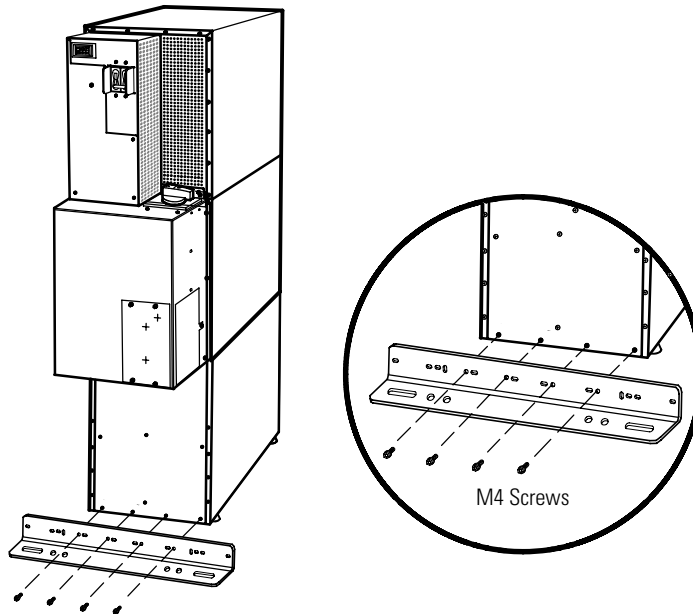

Figure 28. Stabilizing Bracket with One Cabinet
- For one cabinet, see Figure 28.